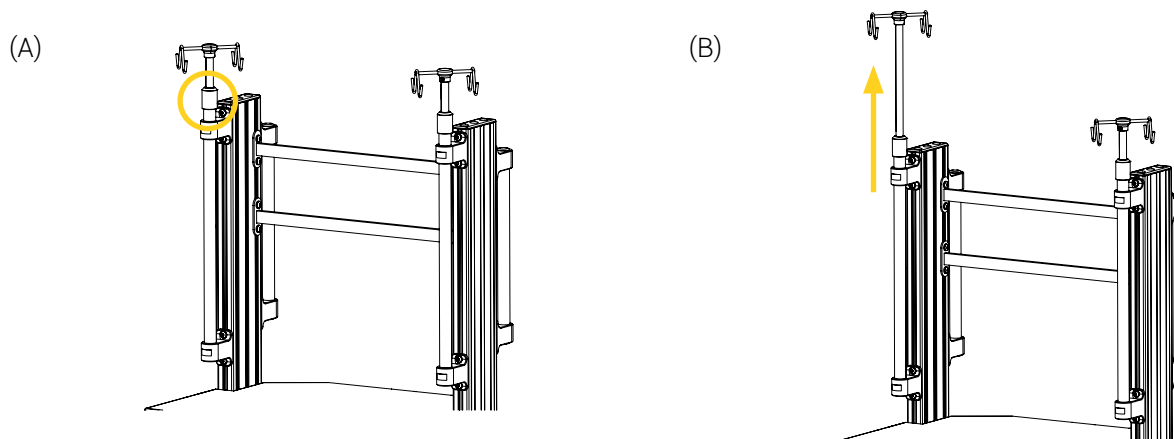

Figure 14 : Height adjustment of the IV pole
1. Loosen the collar of the IV pole by turning it a quarter of a turn counterclockwise, then raise or lower the pole according to your needs (Figure 14).